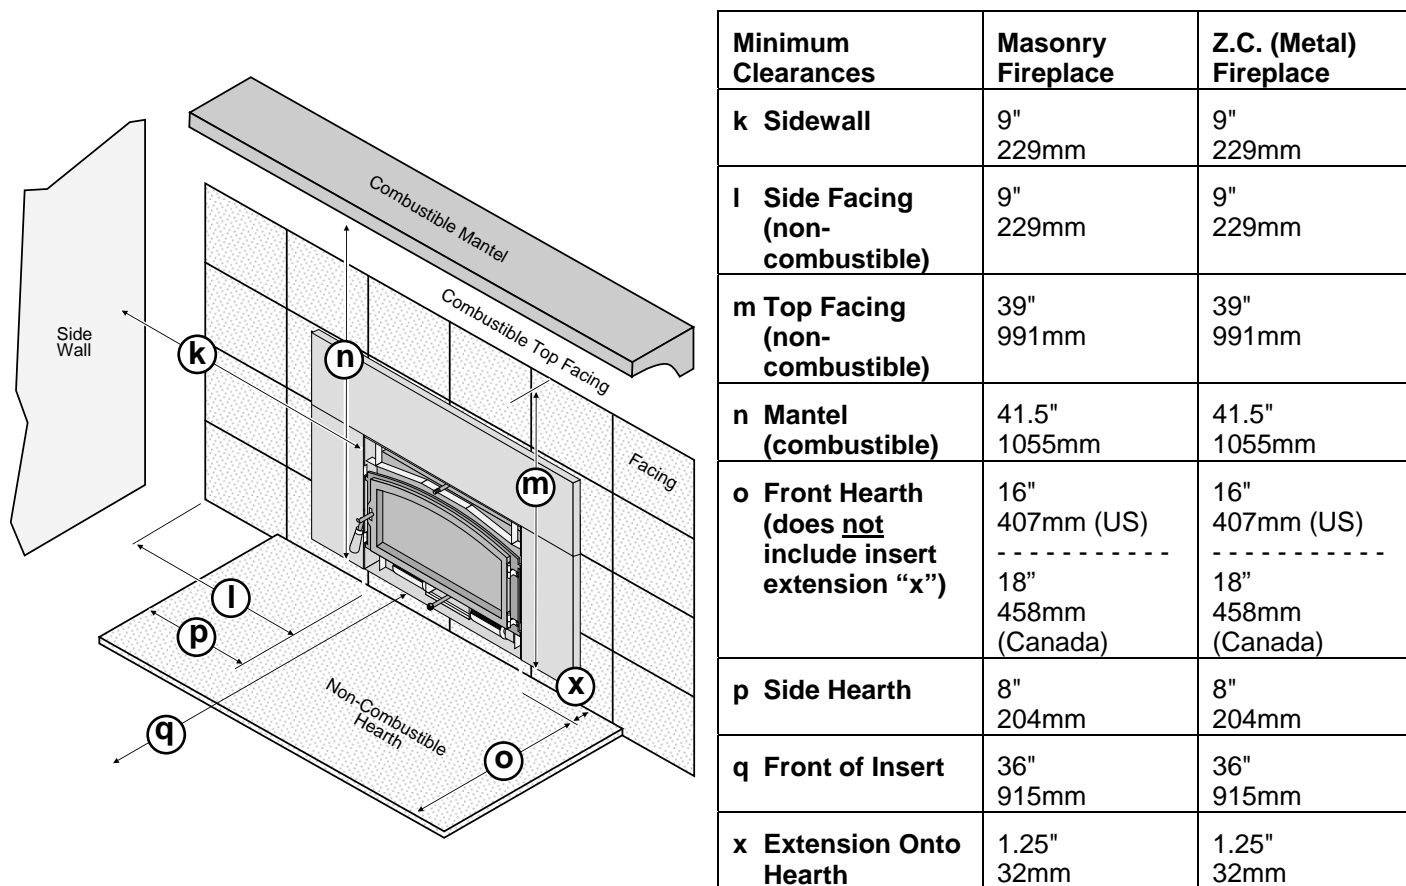

Figure 3
- The insert must be placed so that no combustibles are within, or can swing within (e.g. drapes, doors), 36" (915mm) of the front of the insert (Figure 3 "q").
- The minimum clearances, facing, and hearth requirements in Figure 3 must be met. Follow the clearances for the type of fireplace being used – (masonry or zero-clearance-metal).